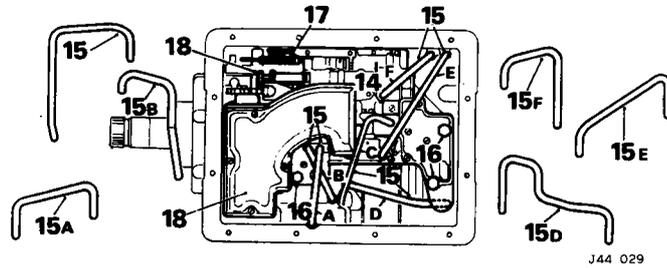

Fig. 28
14. Remove the magnet from the valve block (Fig. 28).
15. Note the fitted positions of the oil tubes (Fig. 28) and using a suitable screwdriver, carefully lever the tubes, with the exception of tube 15D, out of the transmission.
16. Remove the bolts and spring washers securing the valve block (Fig. 28), noting that the shortest bolt is fitted at the front of the valve block.
17. Disconnect the kick-down cable from the cam (Fig. 28).
18. Lift off the valve block (Fig. 28), taking care that the manual valve is not displaced; remove tube 15D as described in operation 15.